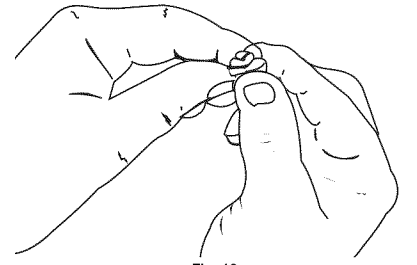

Fig. 19
- Squeeze the filter to spread and remove excess oil (Fig. 19).